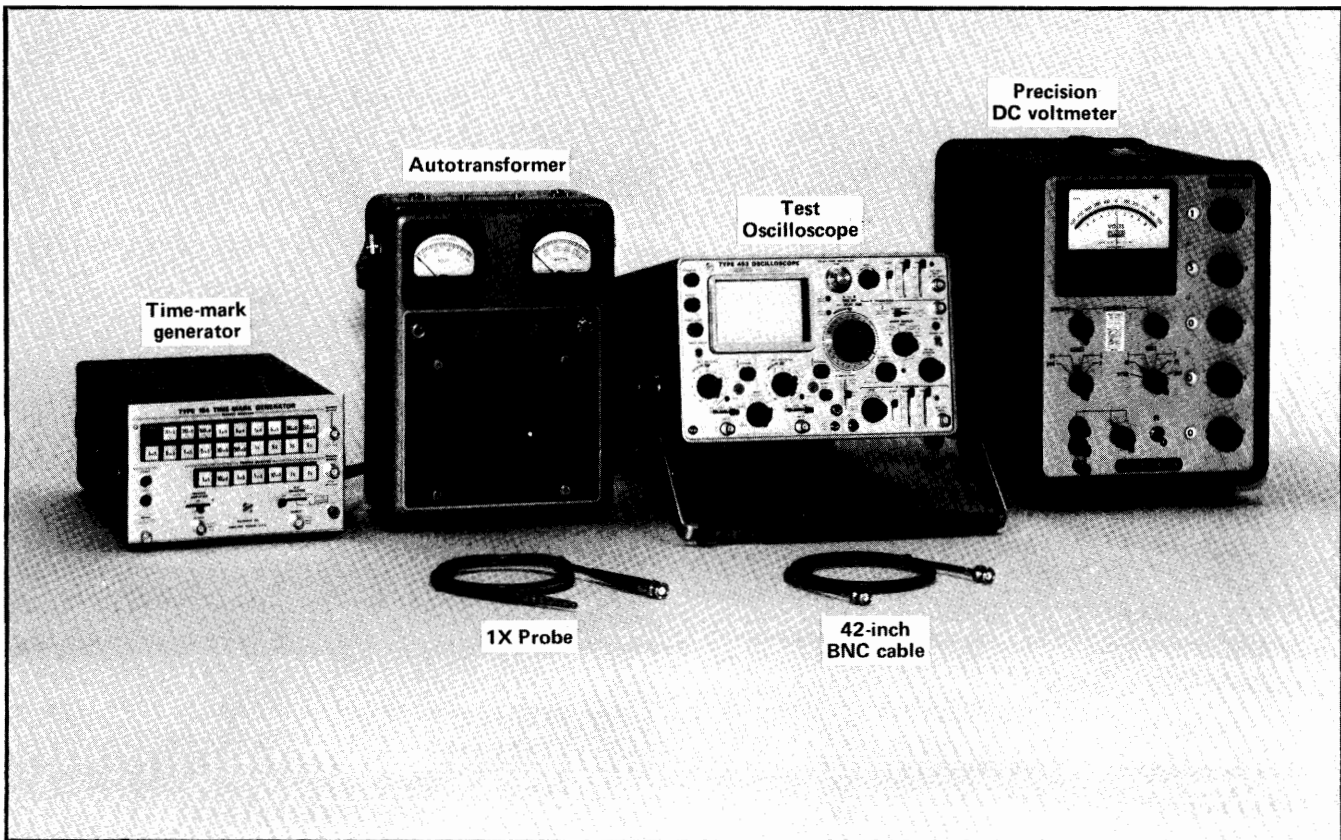

Fig. 5-1. Test equipment required for steps 1 through 12.
- a. Test equipment setup is shown in Fig. 5-1.